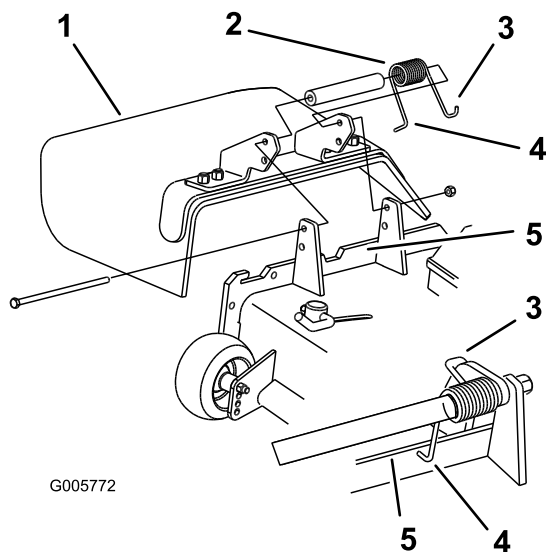

Figure 16
1. Make sure the **L** end of spring is installed behind the deck edge before installing the bolt as shown in Figure 16.
2. Place the **J** hook end of spring around grass deflector (Figure 16).